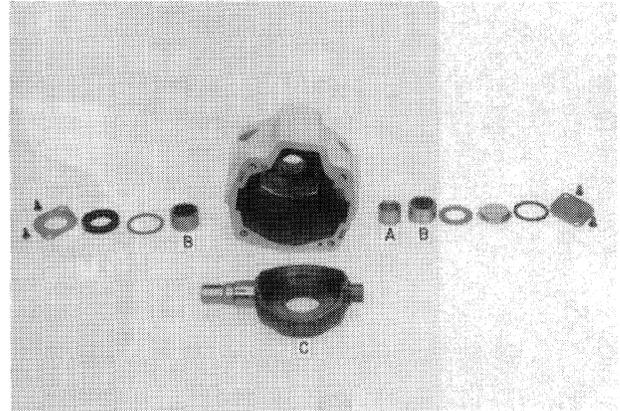

FIGURE 4-15
- e. Remove bearing race, A, and bearings, B, Figure 4-15, by sliding cam plate, C, back and forth until the bearings can be grasped.
- f. Remove cam plate, C, Figure 4-15, by cocking the cam plate and sliding the short side of the cam plate out of the pump housing first. Figure 4-15 shows all the parts used on the cam plate.